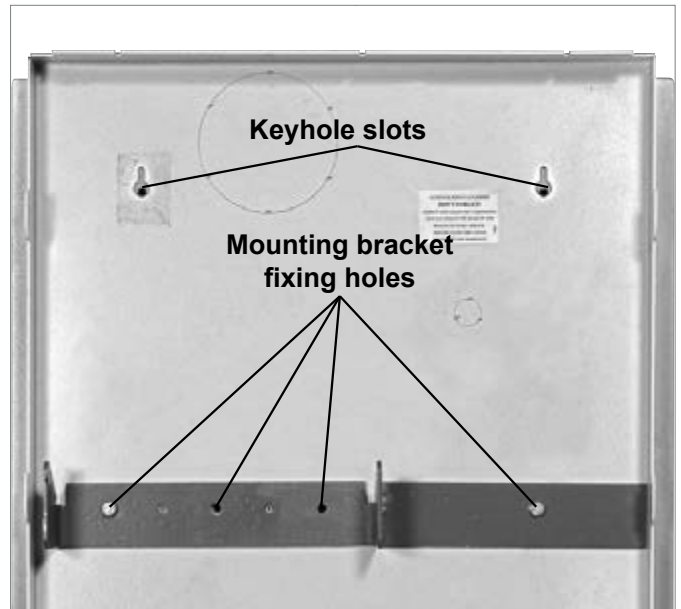

Figure 4-8: Mounting bracket and fixing holes in position on back panel
3. Locate and hold the back panel in the required position on the wall. Check it is level using a spirit level on the top flange. Mark position of the holes for the two keyhole slots. Remove the back panel from the wall. (See Figure 4-8).
9. Locate the mounting bracket on to the back panel, aligning the four holes in the bracket with those in the back panel (see Figure 4-8). Ensure that the mounting 'hooks' are pointing upwards and secure using the fixings supplied with the boiler.